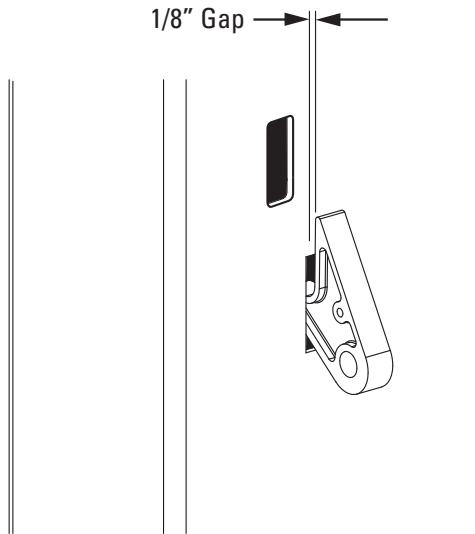

Fig. 35
- A) Check to make sure the latch will properly engage and disengage. Slowly release the latch handle. A 1/8" gap between the top of the latch dog and the column is allowable, Fig. 35.